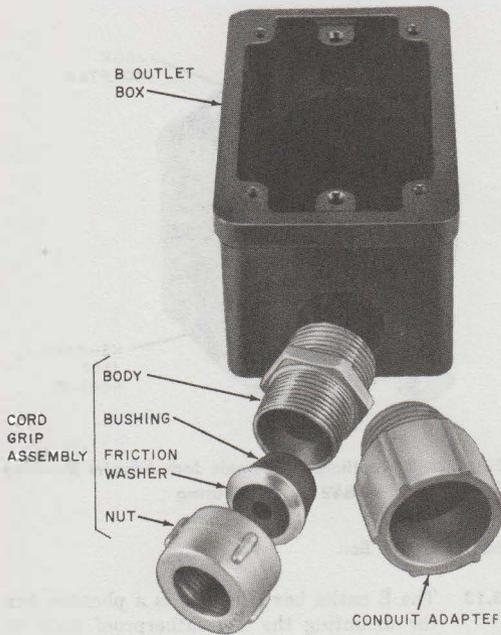

Fig. 60—B Outlet Box (for Mounting B Weatherproof Jacks)
3.13 The B outlet box (Fig. 60) is a phenolic box for mounting the B weatherproof male or female jacks. It has a threaded knockout entrance at each end for use with an aluminum cord grip assembly or PVC conduit adapter. The cord grip assembly and conduit adapter ship with the outlet box.